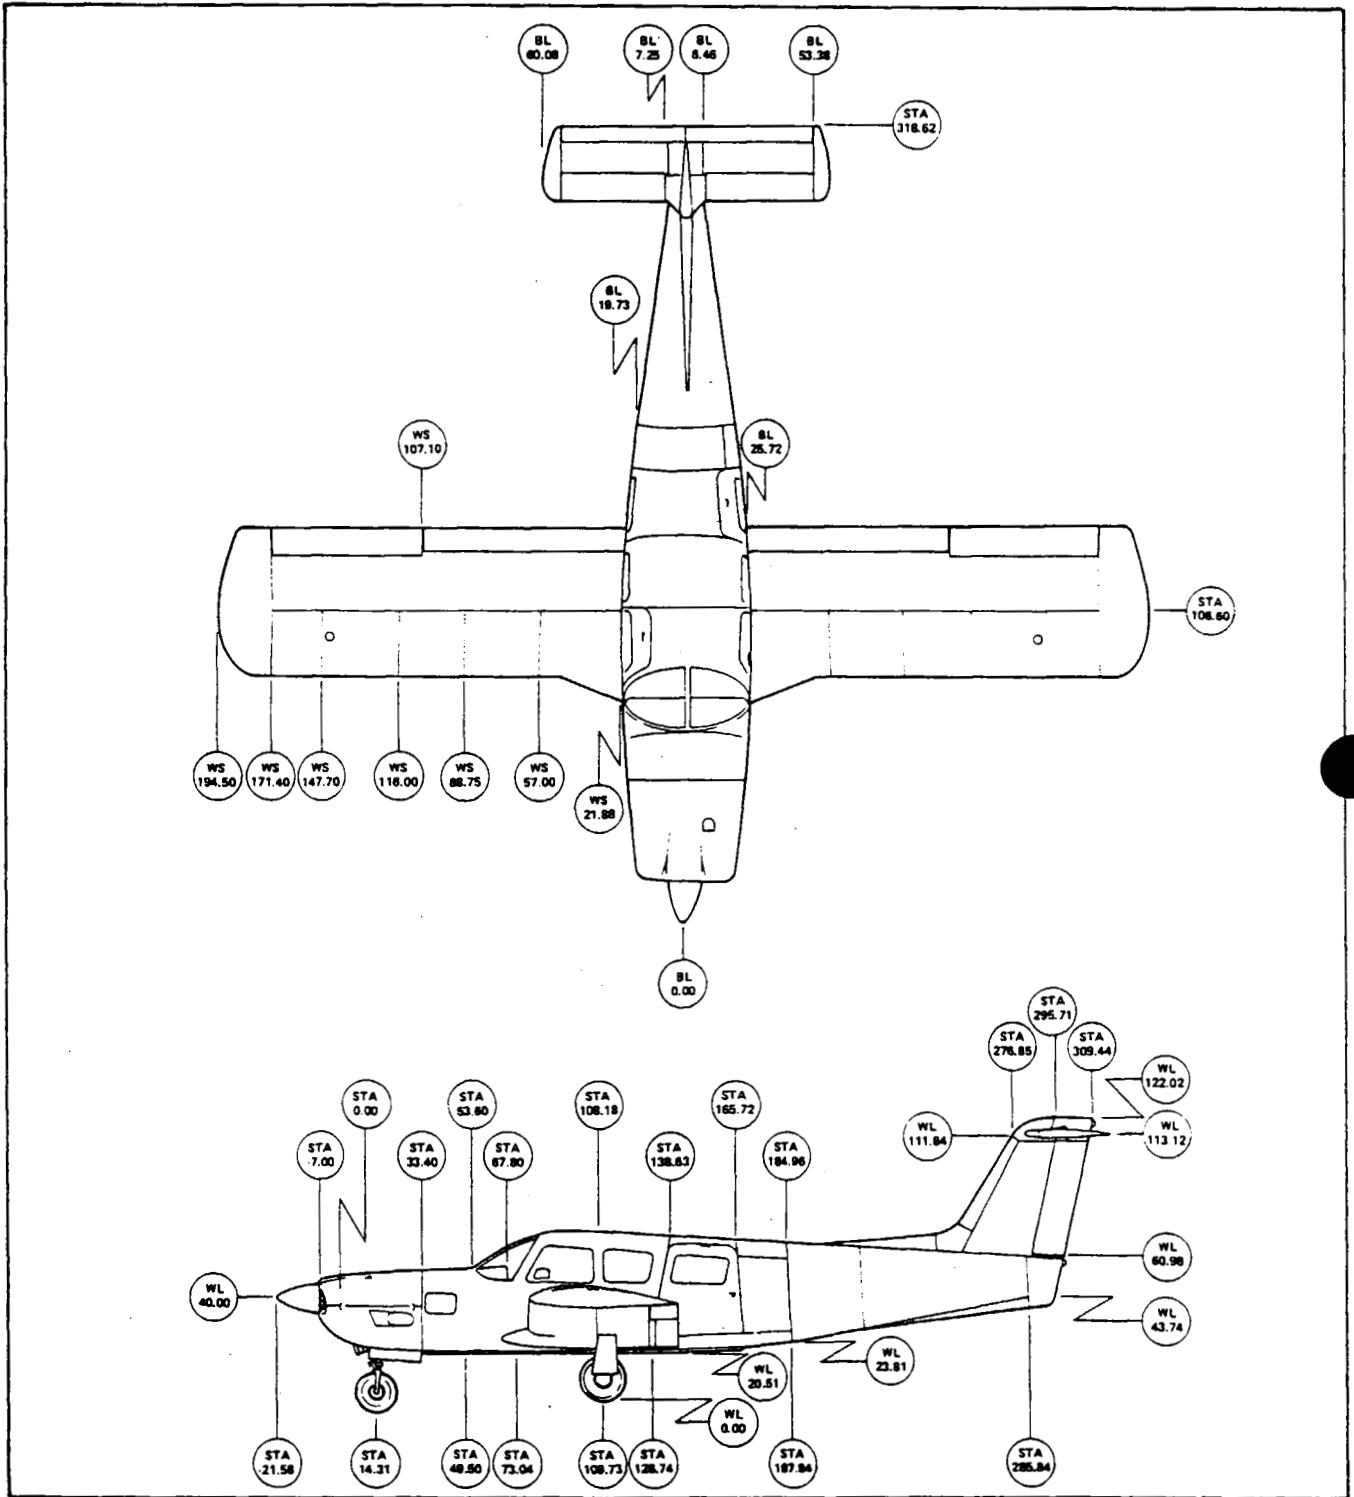
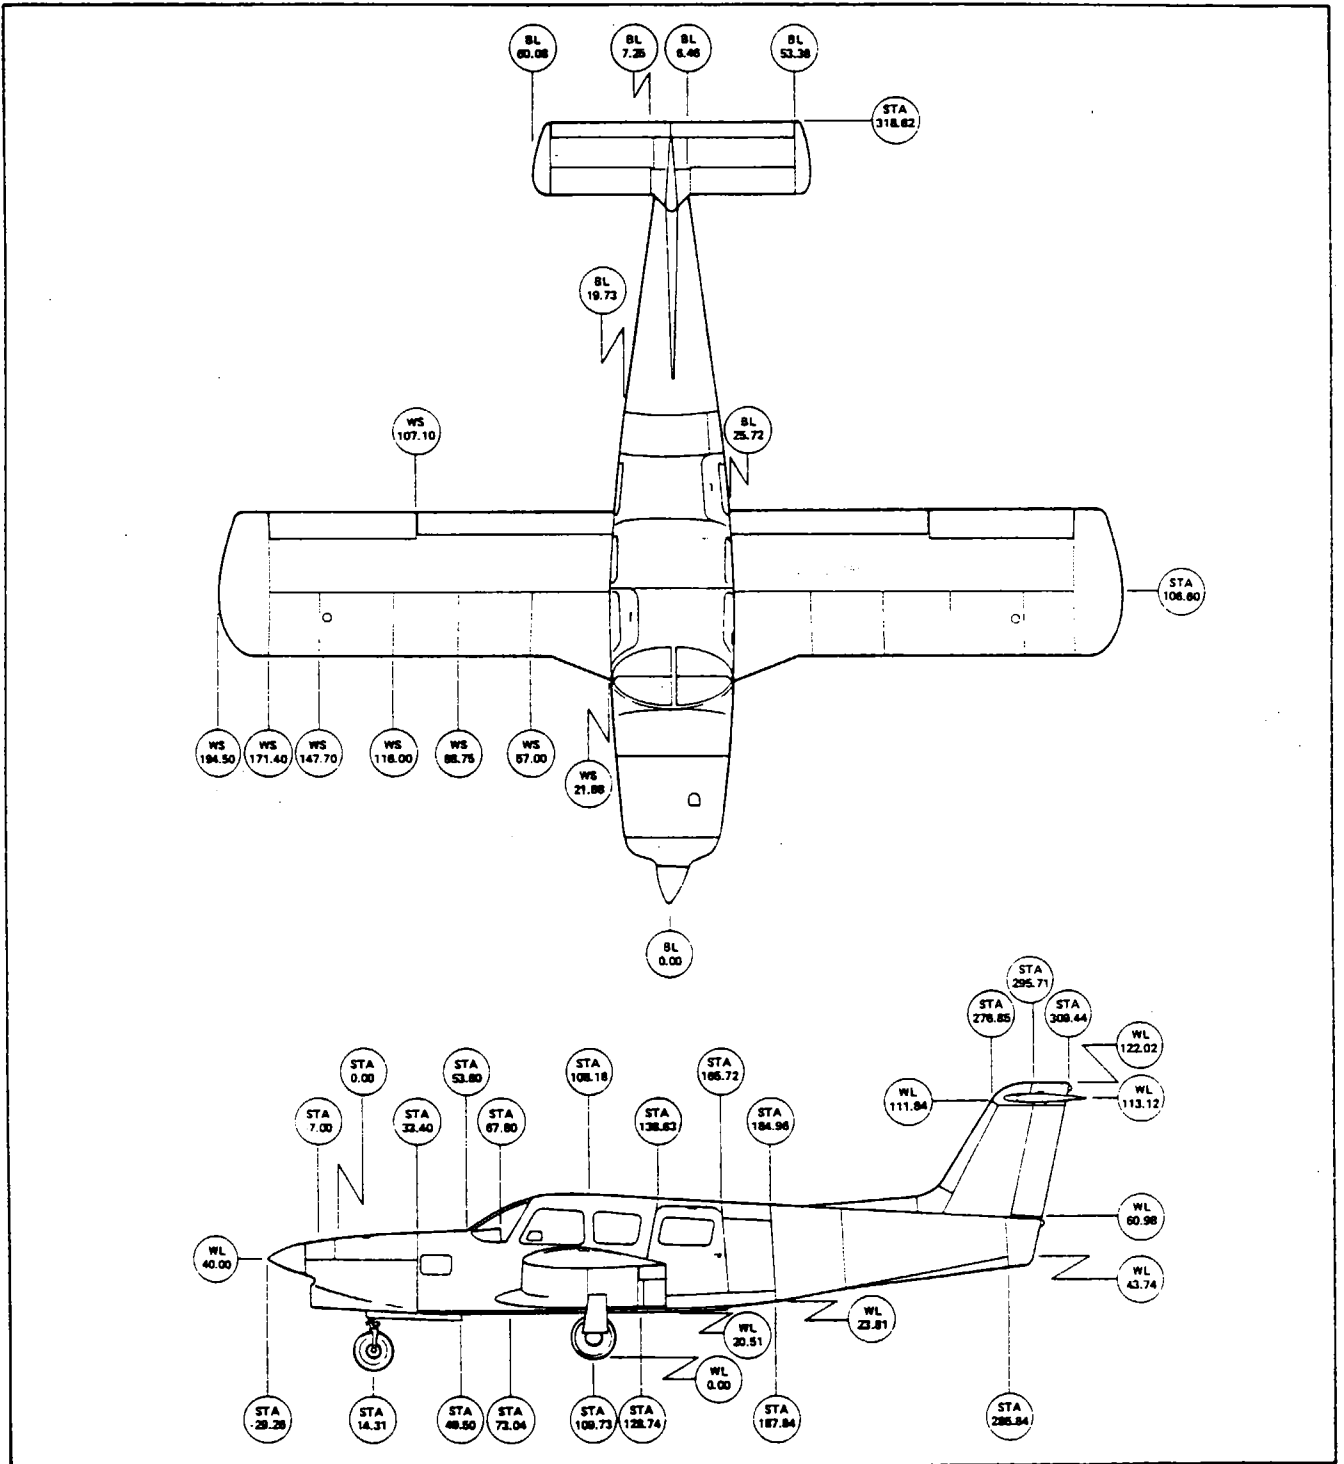

Figure 2-3. Station Reference Lines (PA-32RT-300)
Figure 2-4. Station Reference Lines (PA-32RT-300T)
2-3. **STATION REFERENCE LINES.** In order to facilitate the location of various components of the airplane which require maintenance and servicing, a method utilizing fuselage station, wing station or buttock line (BL), and water line (WL) designations is frequently employed in this manual. (Refer to Figure 2-3 or Figure 2-4.) Fuselage stations, buttock lines, and water lines are reference points measured by inches in the vertical or horizontal direction from a given reference line which indicates station locations of structural members of the airplane. Station 0 of the fuselage is 78.4 inches ahead of the wing leading edge or 33.4 inches ahead of the firewall; station 0 (BL) of the wing and stabilator is the centerline of the airplane; and station 0 (WL) of the vertical stabilizer and rudder is 20.5 inches below the cabin floor as measured at the rear wing spar with the airplane level.